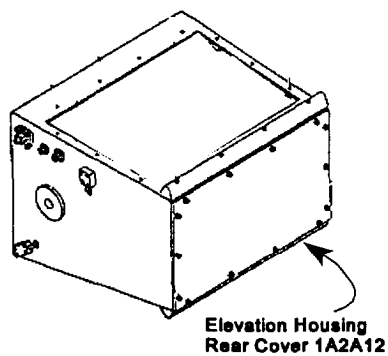

Figure 1
1. Remove rear cover 1A2A12 on the elevation housing 1A2 by loosening the 14 captive screws (Figure 1).